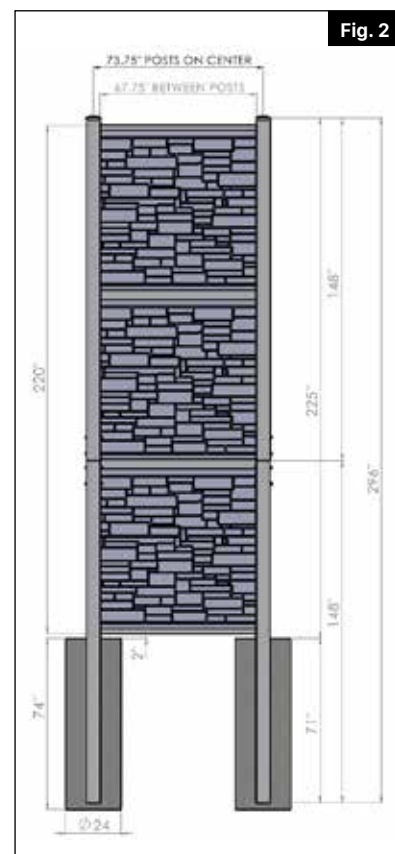

Fig. 2
- e. Install next level bracket leaving ½" space between top of the infill panel and bottom of the bracket. Ensure H rail is level and attach rail to brackets (Fig. 2).